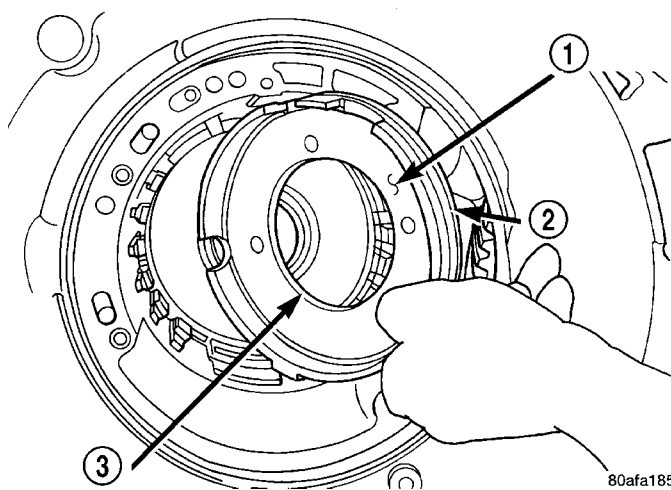

Fig. 89 Install Low/Reverse Clutch Piston
(5) Install low/reverse clutch piston (Fig. 89).